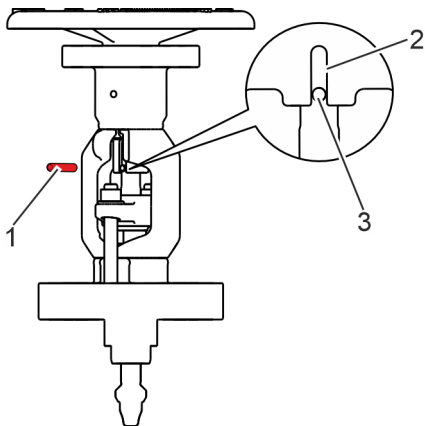

Fig. 31: Aligning the anti-twist device
- 25. ▶ Make sure that the anti-twist device (Fig. 31/1) is fitted in the bore (Fig. 31/3) of the stem and can be driven into the recess (Fig. 31/2) on the bonnet.
- 26. ▶ Mount the anti-twist device (Fig. 31/1) in the stem.